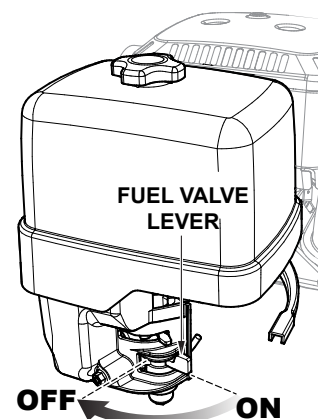

Figure 34. Fuel Valve Lever (OFF)
3. Place the fuel valve lever (Figure 34) in the **OFF** position.